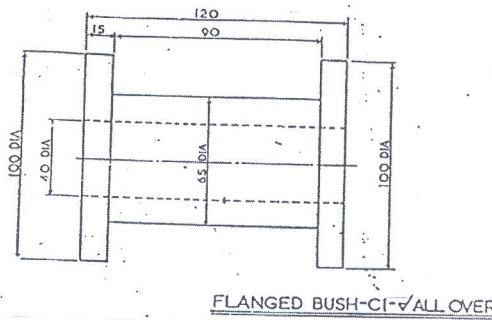

Fig. Q5 (b)
b. A flanged bush of CI has to be casted as shown in Fig. Q5 (b). Identify the possible parting lines and sand cores. Suggest a suitable design modification to remove the need of sand cores. Retain approximately the same weight. (11 Marks)